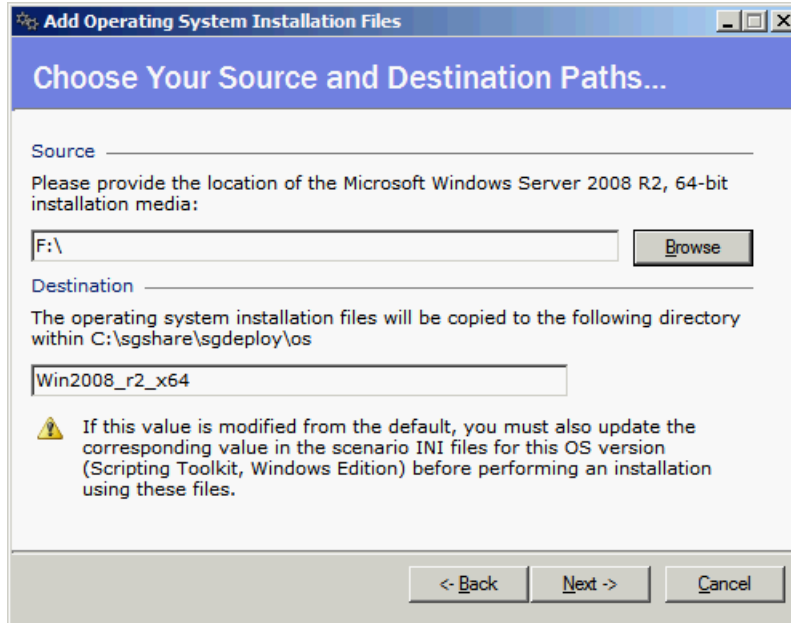

Figure 8-46 Define the source and target
- d. Insert the correct OS installation media or select the folder that contains the installation files for the source, as shown in Figure 8-46 on page 412. If necessary, modify the target and click **Next**.